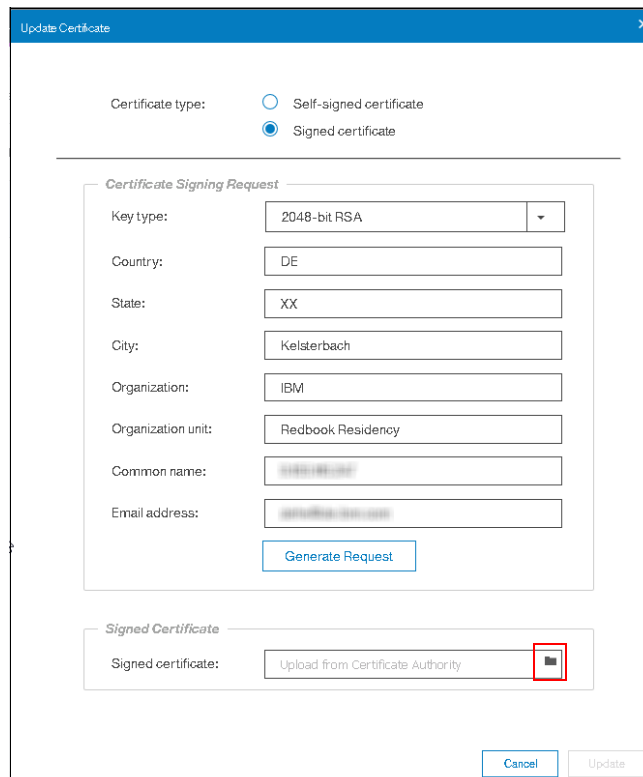

Figure 7-77 Installing a signed certificate
6. Click the folder icon to upload the signed certificate, as shown in Figure 7-77. Click **Update**.